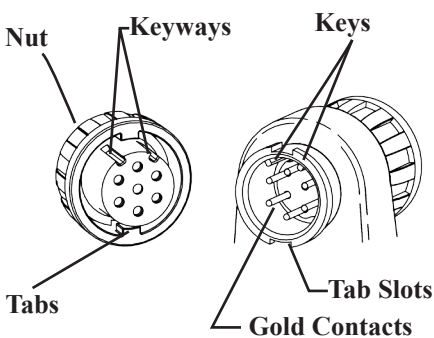

Figure 3
- 2) Refer to Figure 3. The connectors are **Keyed** which means that they can only be plugged in one way.
the Tab Slots on the mating connector. (Figure 3)